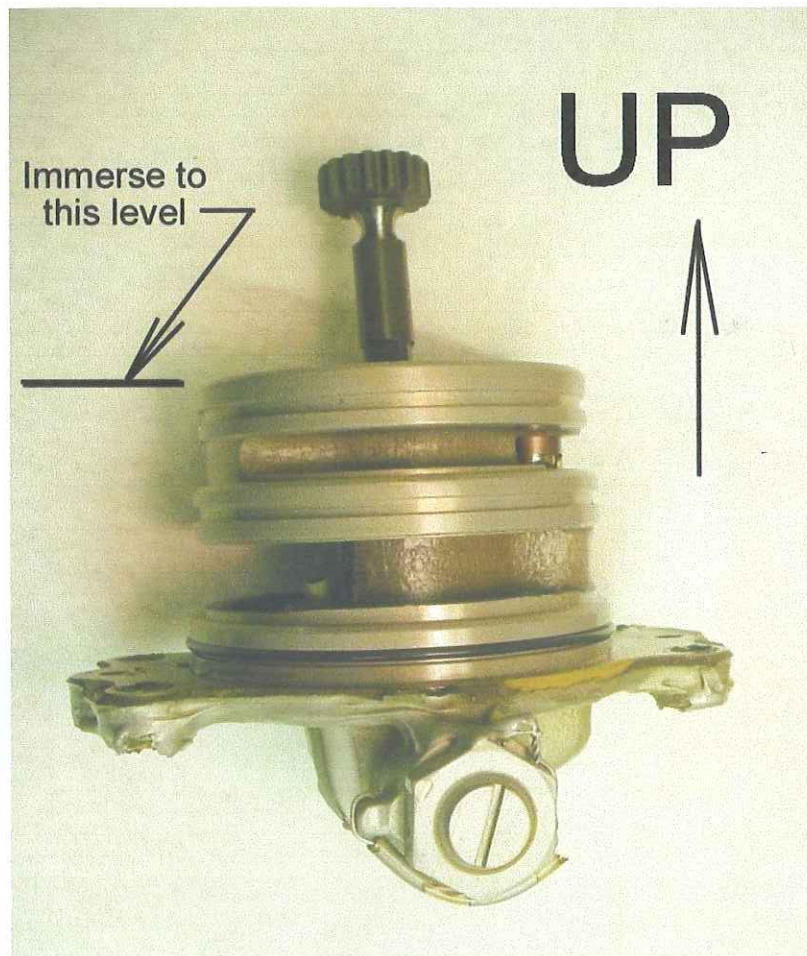

Figure 2
4. If available, immerse pump in an ultrasonic tank not exceeding 150°F for 30 to 60 minutes in the attitude shown in Figure 2.